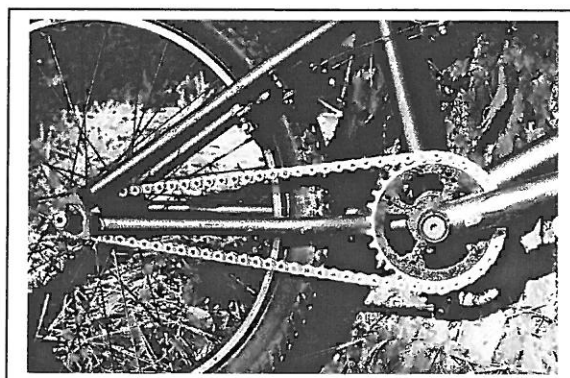

Figure 3
- 2.2 Figure 3 shows the drive system of a bicycle. Identify this drive system and briefly explain why this particular drive system is used on bicycles. Also refer to the systems disadvantages. (5)